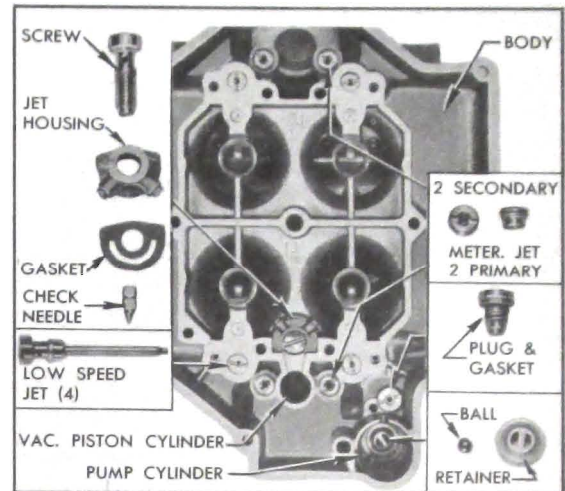

Figure 3-48—Parts in Main Body
plunger assembly and lower pump spring from cylinders in main body. See figure 3-48.
13. Remove screw, pump jet housing, gasket, and pump check needle from main body. See figure 3-48.
14. Remove four low speed jets, four metering jets, and the pump relief plug with gasket from the main body. See figure 3-48.
15. Use a thin screw driver or a stiff wire having a short hook on one end to remove the pump intake check ball retainer. See figure 3-48.
14. Place a *new* pump inlet check ball in inlet hole. Place ball retainer in small end of sleeve part of Installer T109-122 shown in figure 3-35. Then insert retainer and tool in recess in bottom of pump cylinder and tap tool sharply to seat retainer. See figure 3-48.
15. Install pump relief plug with gasket, the four metering jets, and the four low speed jets in main body. See figure 3-48. NOTE: *The metering rod jets in primary side have a larger hole that main metering jets in secondary side. See paragraph 3-1 for correct numbers.*
16. Place pump check needle, *tapered end downward*, in passage in main body, then install gasket, pump jet housing, and attaching screw. See figure 3-48.